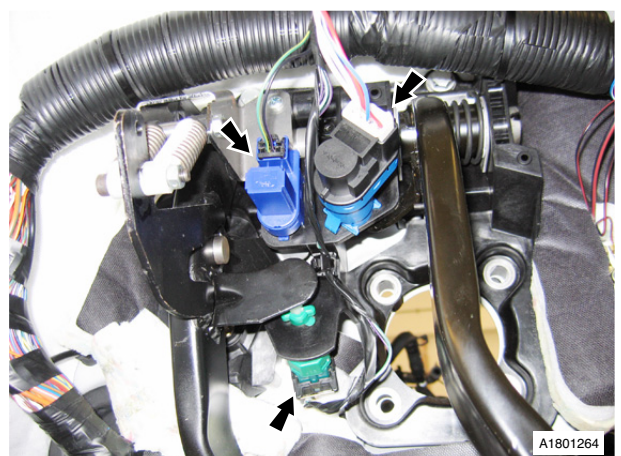

Fig. 3
31. Disconnect Stop light switch, Clutch UP switch and Clutch DOWN switch multiplugs Clipped to body x1) (see Fig. 3).